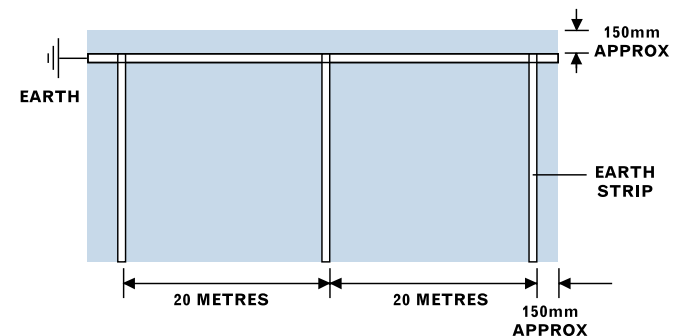

Figure 1 Earthing strip layout
- ▶ The earth strip is laid 150mm from one side of the room, in the same direction as the vinyl sheets are to be laid. This strip is connected to a known earth (Fig 1).